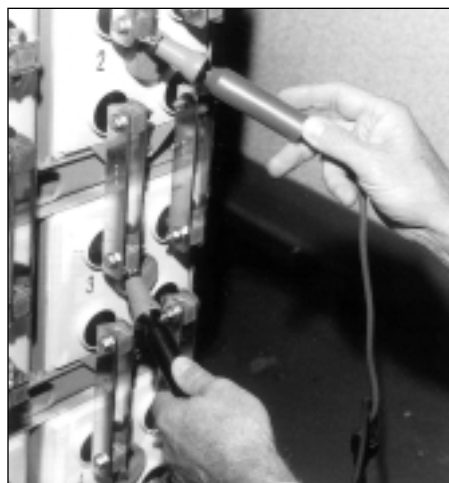

Fig. 24
6. Terminal connections should be checked to verify that the installer did torque all connections properly (125 ± 5 in.-lbs.). Micro-ohm readings should be taken across every connection. (Refer to Fig. 24, pg. 14.) Refer to meter manufacturer's instructions for proper placement of probes. If any reading differs by more than **20%** from its initial installation value, re-torque the connection to 125 ± 5 inch-pounds. If the reading still remains high, clean contact surfaces according to Step 2 under Connector Assembly (pg. 7).